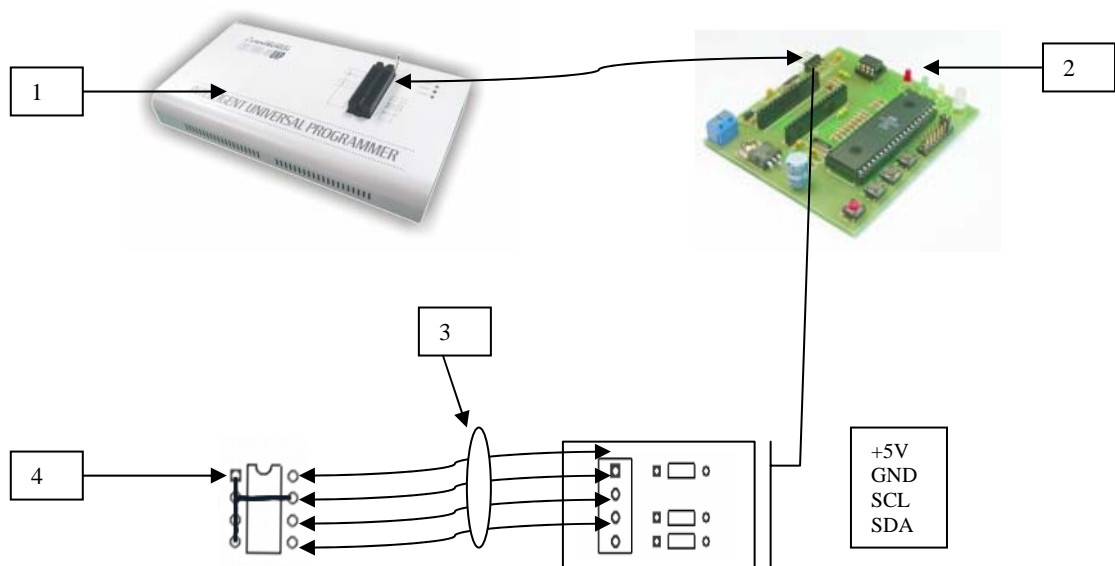

Figure 3.
In case of necessary users have possibility attach E6 Copier tool direct to Universal Programmer via 4- pins External connector (see Figure 3). E6 Copier tool tested together with Dataman48 or Labtool48, ACE*. Requirements for external programmer: current -50 mA min. single pin driver output
8. Read AT24C02 memory (see Figure 3) by external programmer and save original dump